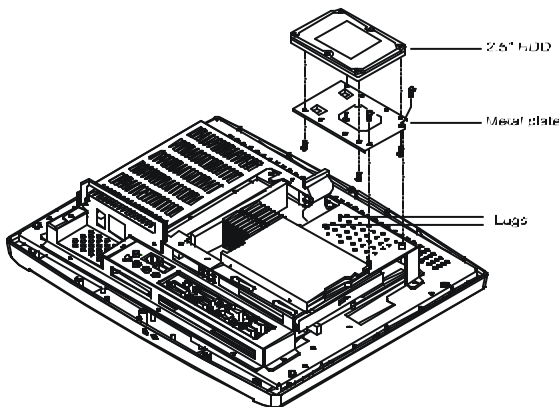

Figure 3-2: Installing the primary 2.5" HDD
2. There is a metal plate which holds the HDD to the upper right-hand side of the metal shielding case. (See Fig. 3-2.) Remove the two screws on the metal plate.